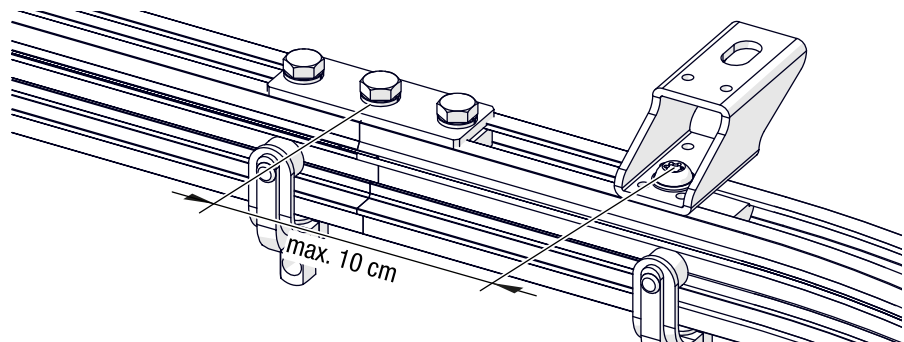

Fig. 42: Suspension distance to the joint
- ➔ Fasten a suspension point on one side so that the distance from the centre of the suspension to the joint is no more than 10 cm (see Fig. 42).